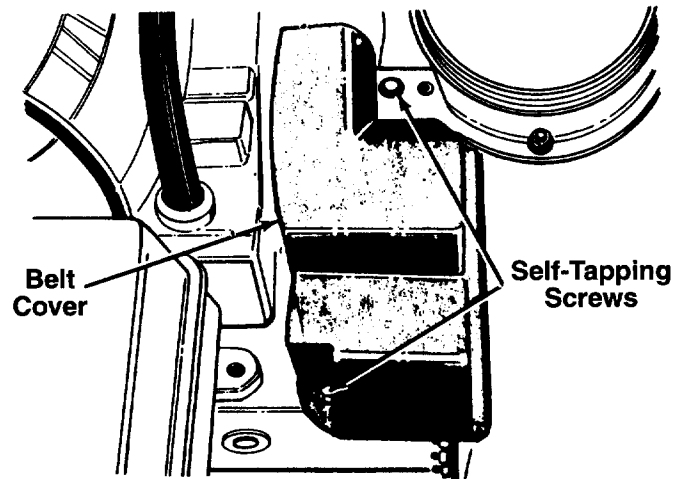

FIGURE 18.
1. Remove the plastic belt cover on the front of the engine by removing the two self-tapping screws. See figure 18.